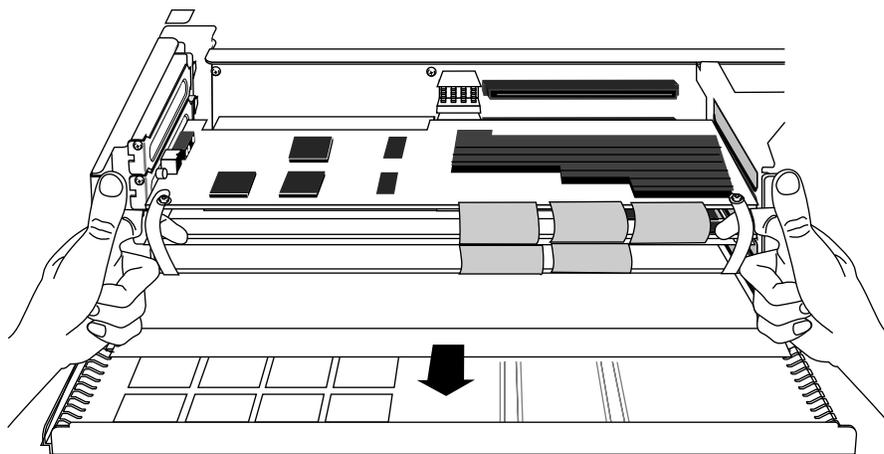

Figure 2-10 Removing the Graphics Board Set
7. Pull the straps to remove the graphics board set from the chassis (Figure 2-10).